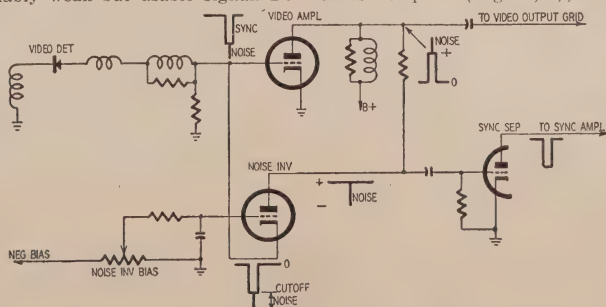

Fig. 3—A cancellation type circuit.
1. *The cancellation type.* The noise signal is clipped (Fig. 3) from the sync (often the video) signal, inverted and fed back into the system 180° out of phase to cancel the noise, without adversely affecting the sync. The constants of the clipper are rather critical and adjusted at the factory by a cut-and-try procedure if an external control is not provided. This arrangement is used in the Magnavox series 160 and 107 and in other makes and models.